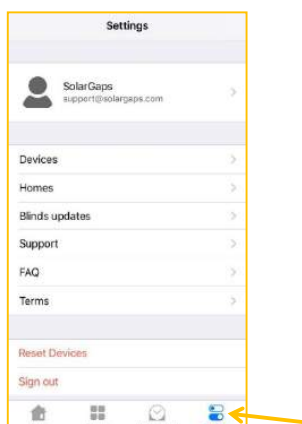

Figure 59
10.14.1. Click the application **Settings** menu (Fig. 59).